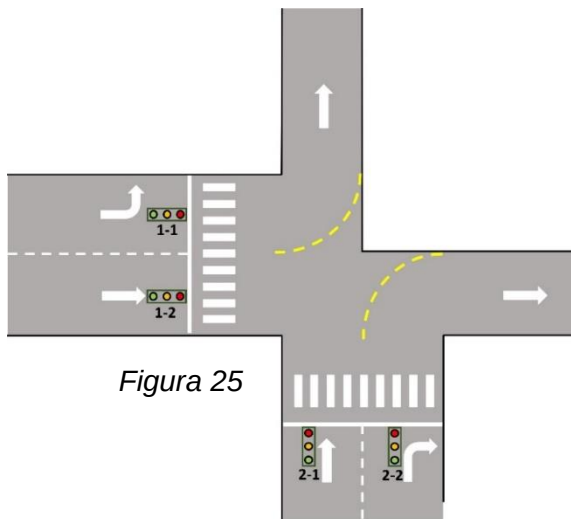

Figura 25
- “Draft Layout_4 luci” **Figura 25**